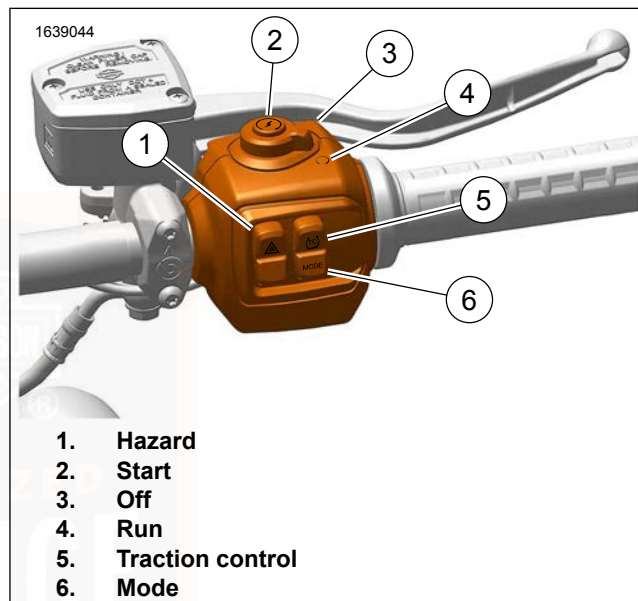

Figure 43. RHCM (Without Infotainment)
See Figure 43. The hazard switch (1) is used to leave a stranded motorcycle in the 4-way flashing mode. With the flashers, the motorcycle can be left with the ignition off until assistance is found.
See Figure 43. Press the mode button (6) to change the ride mode.
See Figure 43. Position the engine OFF/RUN switch to the Off position (3) to shut off the engine.
See Figure 43. Push the engine OFF/RUN switch to run (4) to enable engine start and run. The engine OFF/RUN switch must be in the run position to start or operate the engine.
See Figure 43. Position the engine OFF/RUN switch to the Run position (4) to allow the engine to start.
1. Switch the OFF/RUN switch to the run position (4). Shift the transmission to neutral. The neutral (green) indicator illuminates. See Starting the Engine (Page 112).
2. Press the start switch (2) to operate the starter motor.
See Figure 43. The traction control button (5) activates and deactivates the traction control system.